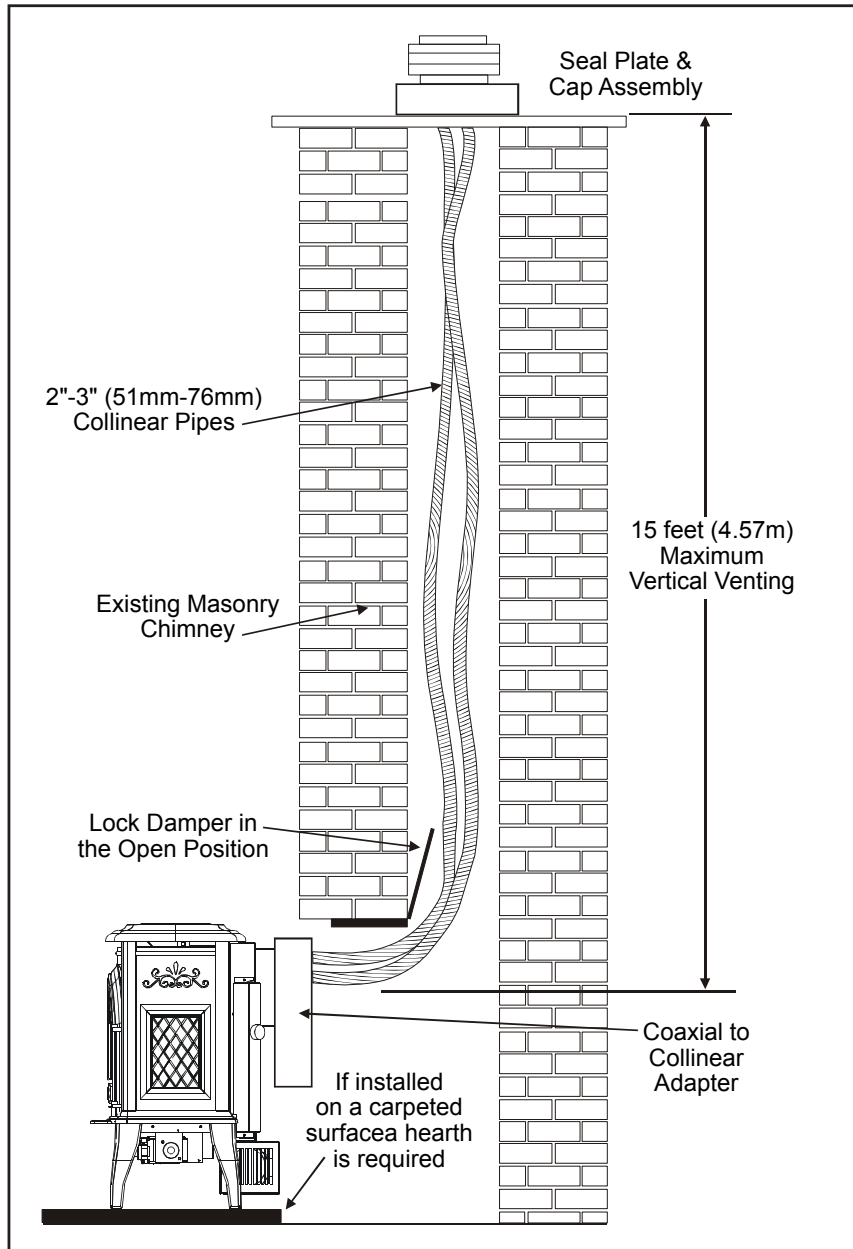

Figure 43: Hearth Mount Installation.
4. After a minimum of 10 minutes operation, test the chimney draft with a smoke match at the top row of the pattern to confirm that there is adequate draft or 'pull' at the openings around the body of the Draft Hood Adaptor, as shown in Figure 43.